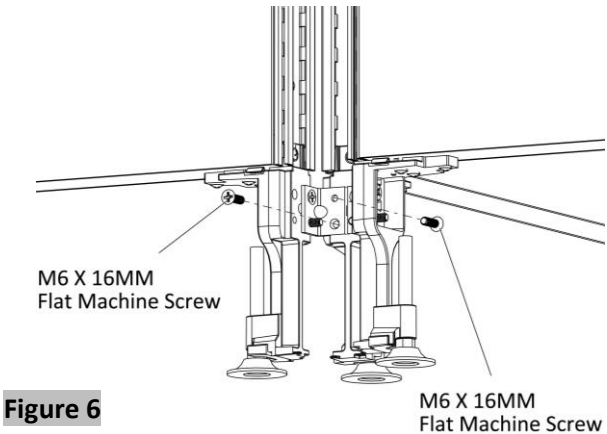

Figure 6
- Secure the base with two M6 X 16MM, Flat Machine Screws, (Figure 6).